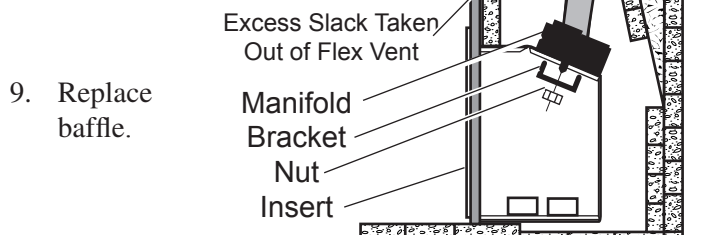

Figure 10 - Sliding Insert Into Place
6. Slide insert into place. Guide the manifold over the insert until it is fully in place. Figure 10.
7. Remove any slack from flex vent. Attach manifold to insert. Figure 10.
8. Remove any excess slack in flex line. Attach vent termination. Figure 10.